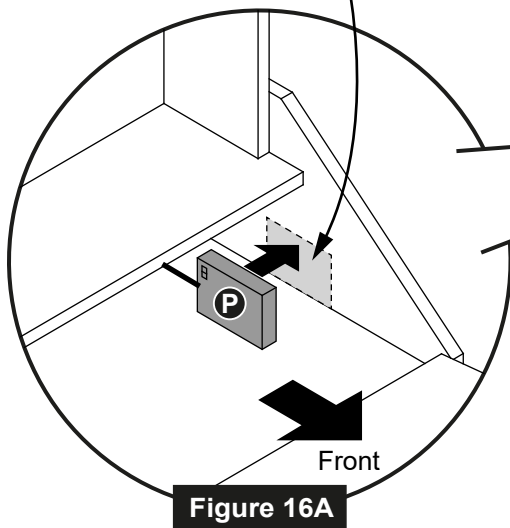

Figure 16A
33. Peel off 3M tape cover on battery box and stick on the inside the bottom cabinet upper row. See **Figure 16A**.